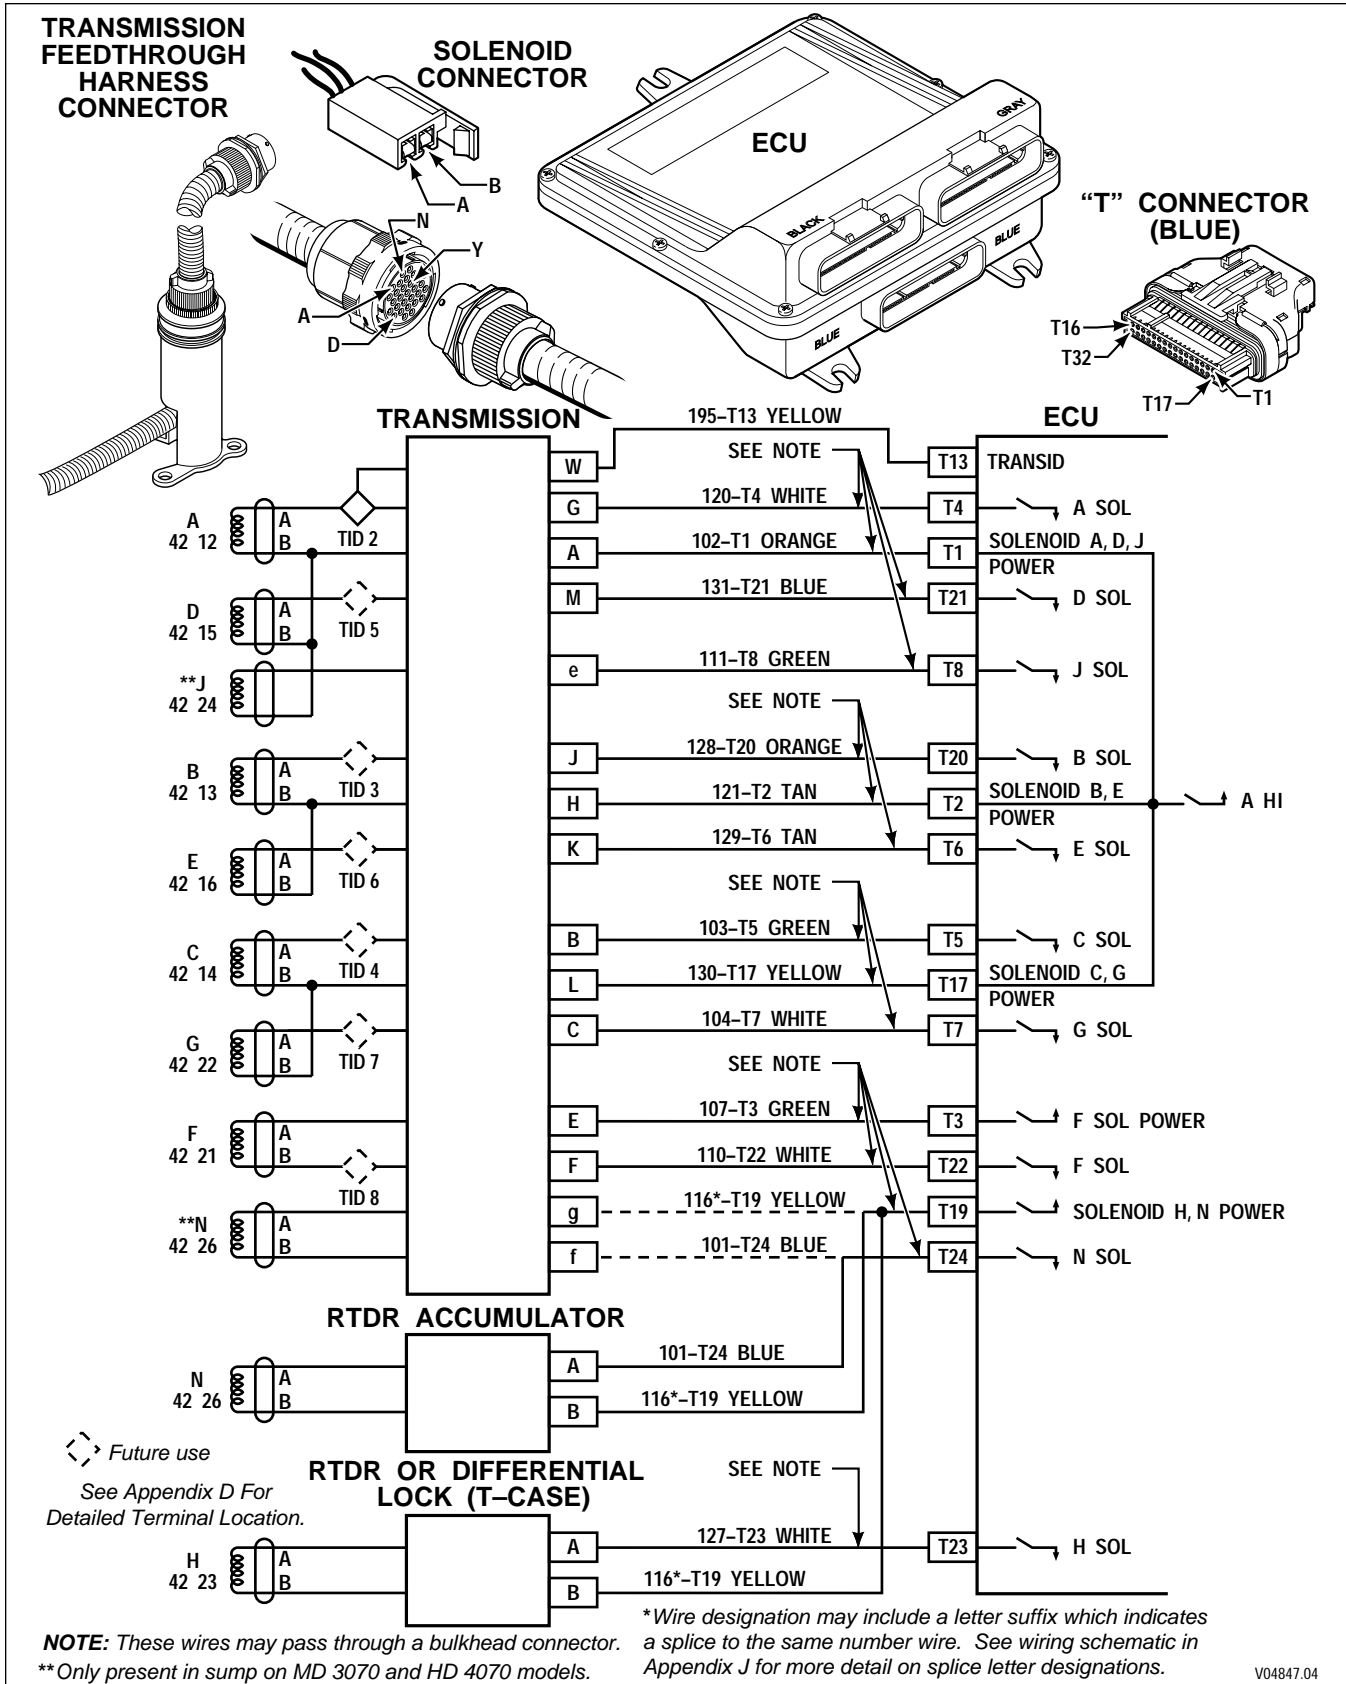

Figure 6-14. Code 42 Schematic Drawing
**CODE 42 XX — SHORT-TO-BATTERY IN SOLENOID CIRCUIT** (*Figure 6-14*)
**CODE 42 XX — SHORT-TO-BATTERY IN SOLENOID CIRCUIT** (Figure 6-14)
5. If code 42 21 occurs repeatedly and the F solenoid and wiring checks okay, the F-Hi or F-Lo driver may be failed open. Follow Step (4) above.
6. If codes 42 23 and 42 26 occur repeatedly and solenoids and wiring check okay, the H and N-Hi driver may be failed open. Follow Step (4) above.